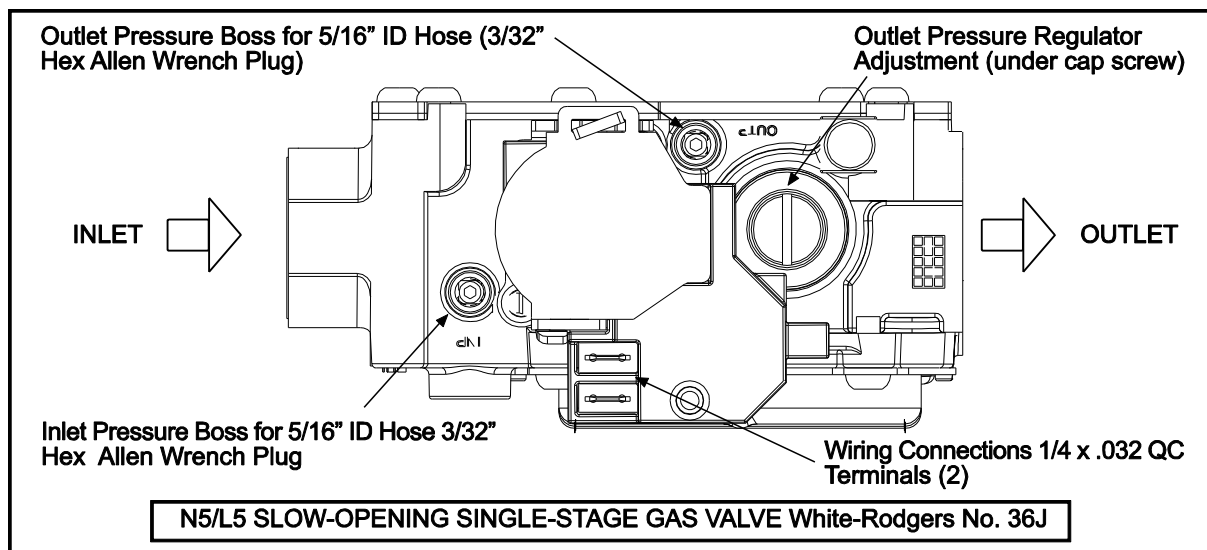

Figure 1
2. Turn the pressure test screw (3/32" Hex) in the center of the boss **not more than one turn counterclockwise**. Attach a 5/16" hose and manometer over the tapered outlet pressure boss on the valve (see **Figures 1** and **2** below). If regulator needs to be adjusted, see instructions below.
1. Turn on power and energize the main gas valve. Remove regulator cover screw (see **Figure 1** below). Turn regulator adjustment screw **clockwise** ⤵ to **increase pressure**, or **counterclockwise** ⤴ to decrease pressure. Replace regulator cover screw and tighten securely.